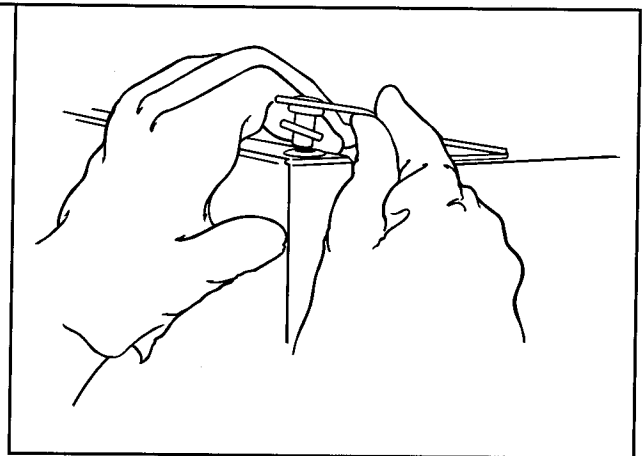

Figure 60
- c. Save plastic top hinge plate spacer(s), if used, and all unattached plastic hinge spacer ring(s) from underneath top hinge plate pin and use in Step 21. See Figure 60.